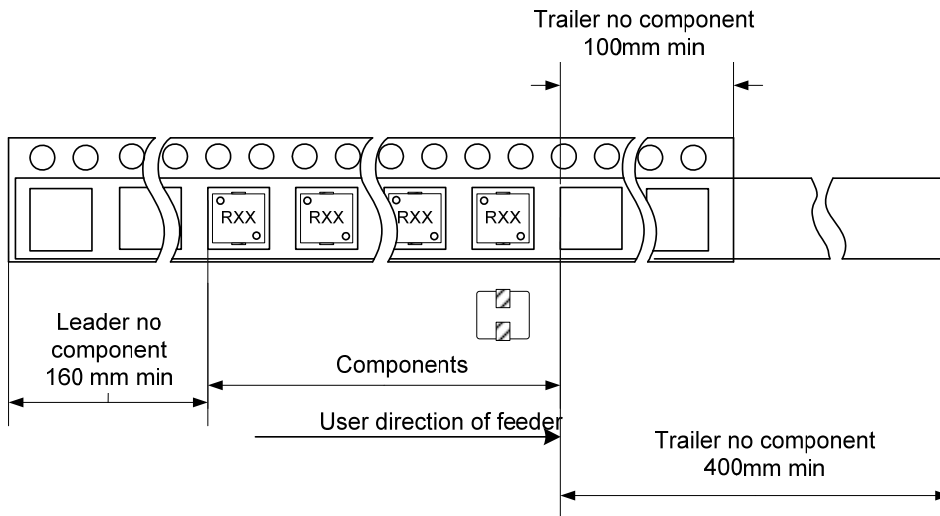

Fig. 9.1.1-2
2) Direction of rolling (Please refer to Fig. 9.1.1-2)